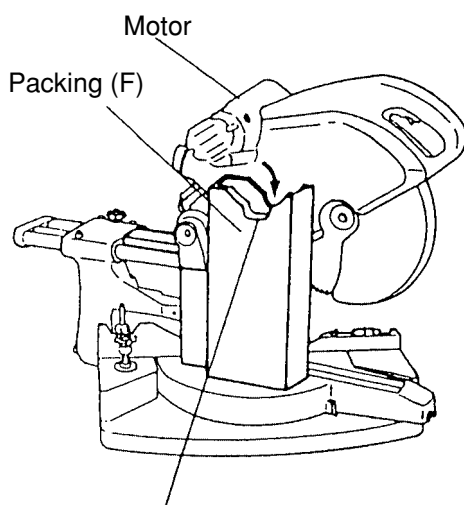

Fig. 53 Place the packing so that the motor housing fits in the groove.
(3) How to install packing (F) and (H)
Place packing (F) under the motor and packing (H) under the head section. Push the head section down. Insert the locking pin while pressing the packings (F) and (H) to secure the head section in position. (See Figs. 53 and 54.)